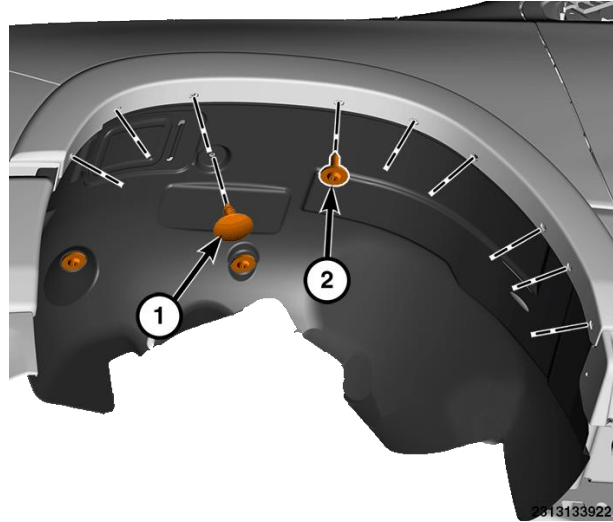

Figure 6 – Splash Shield
9. Remove the 10 screws (2) and the push pins (1) (Figure 6).
48. Install the 10 screws (2) and the push pins (1). Tighten the screws securely (Figure 6).